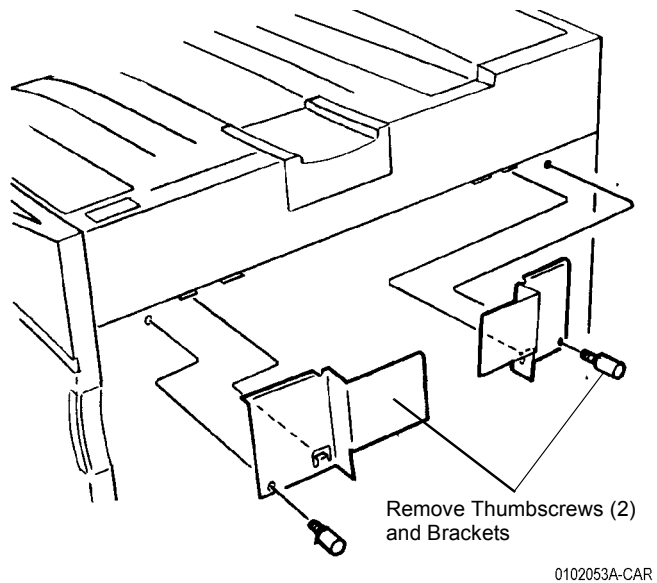

Figure 1 Removing Brackets
3. Remove Front and Rear Brackets (Figure 1).